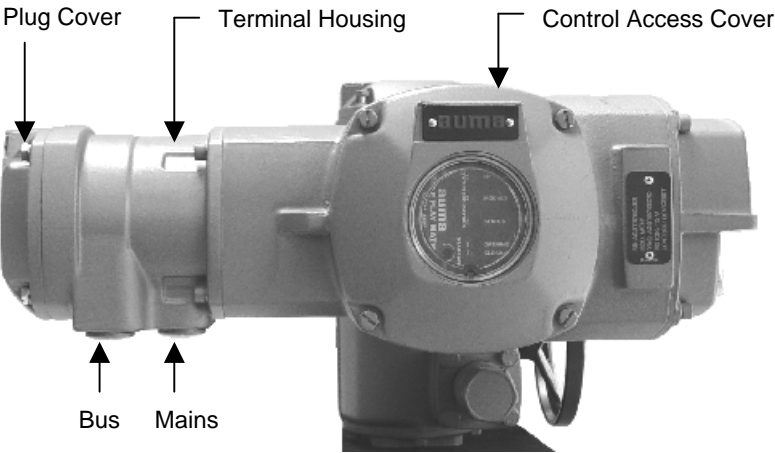

Figure 4-3
- The CDN795 connection board is located in the terminal housing (figure 4-3)
- Loosen and remove plug cover (figure 4-3).